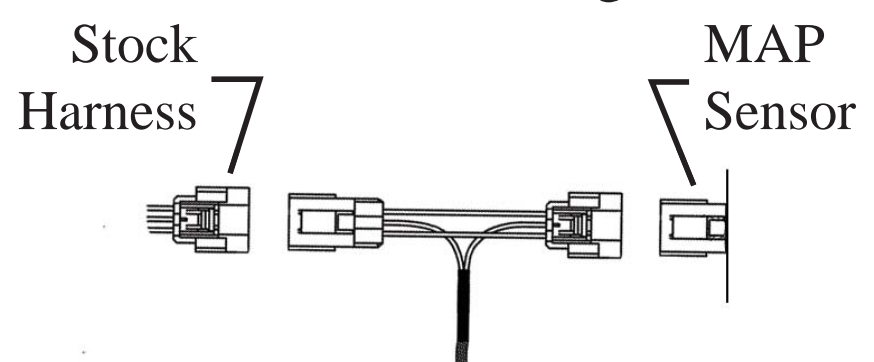

FIGURE 2 - "T" ASSEMBLY
1. Connect the MAP connectors in between the stock harness and the sensor. See Figure 2.